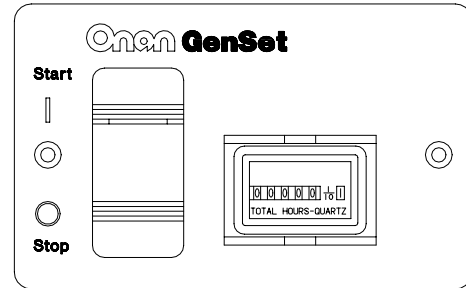

FIGURE 16. REMOTE CONTROL / HOUR METER
- Remote start/stop switch with status indicator light and hour meter (Figure 16).